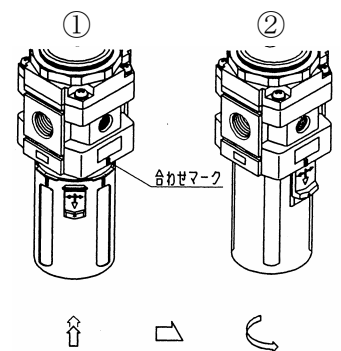

Fig.5
3. Attaching a case (See Fig.5)